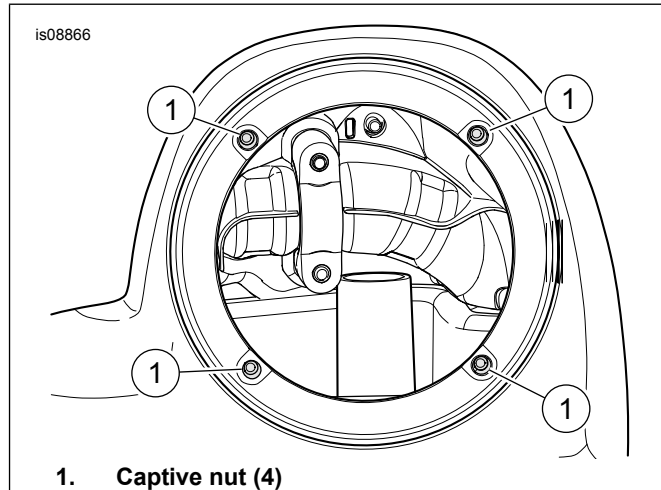

Figure 11. Captive Nuts
15. See Figure 11. Install captive nuts (4) from inside of the large opening.